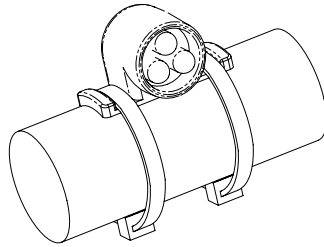

Figure 3
- Fasten with *Cable Ties* as shown in Figure 3.
Connect the Visual Alert into the connector labeled "Visual" as shown in Figure 3.